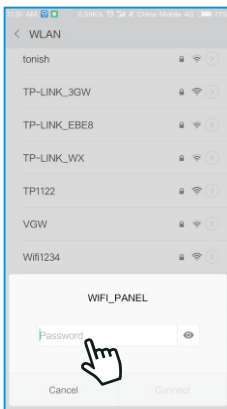

Fig. 5-11
Step 4: Open the phone WiFi settings, select the hotspot name and enter the hotspot password to connect; switch to the phone configuration interface and click "Start Configuration" (Fig. 5-11, 5-12, 5-13) .